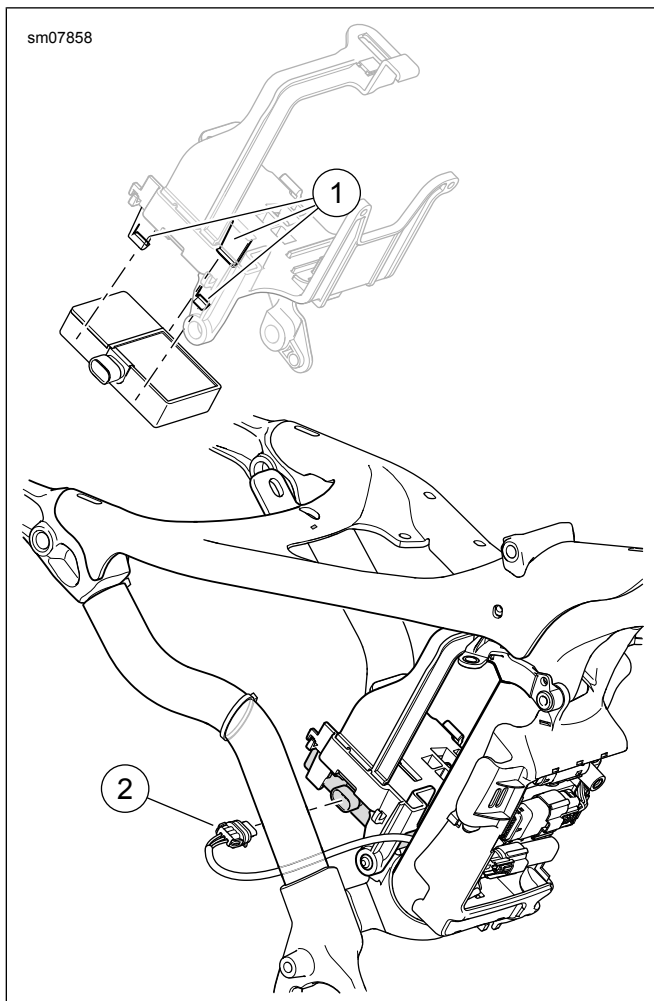

Figure 3. Sportster
3. See Figure 3. Slide siren into battery tray with sounder disc facing down. Make sure tabs (1) lock siren in place.
4. Connect connector [142B] (2) to siren.